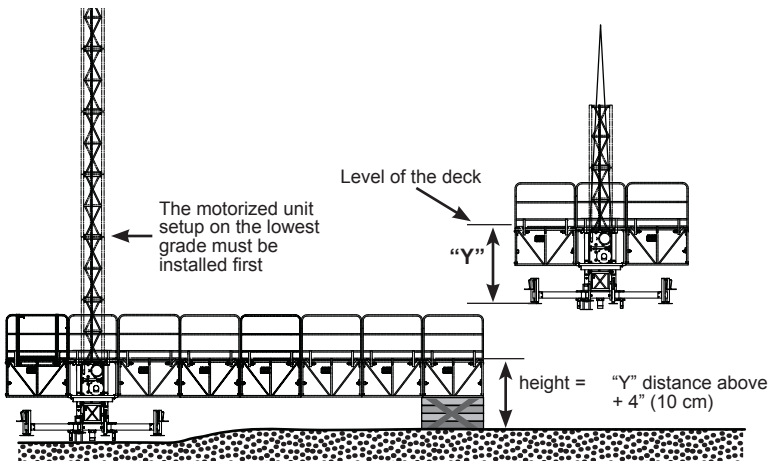

Fig. 1.44
- 1- Prepare the first motorized unit as described in the general installation guidelines and the preparation instructions on p. 15. If the twin mast structure will be installed on an uneven bearing surface or if there are obstacles preventing a level installation of the base of the structure, the motorized unit on the lowest grade must be installed first (see fig. 1.44, p. 24).
- With the bridge structure still supported by a crane or a forklift, raise the structure so that the level of the deck of the second motorized unit will be 4" (10 cm) above the top of the cribbing that will be supporting that motorized unit (see "Y" distance in fig. 1.44, p. 24).
- Lift the motorized unit and align the base with the face of the work and with the bridge structure. Before bolting the unit to the bridge structure, determine where the cribbing will rest. The bearing surface under the motorized unit must be level, clear of debris and have the proper bearing capacity (see *Minimum Ground Bearing Capacities* table, fig. 1.22, p. 14). Set the cribbing and bolt the second motorized unit to the last bridge of the bridge structure (see fig. 1.44, p. 24).
\* For illustration purposes only, appropriate cribbing is not shown under the motorized unit in fig. 1.44